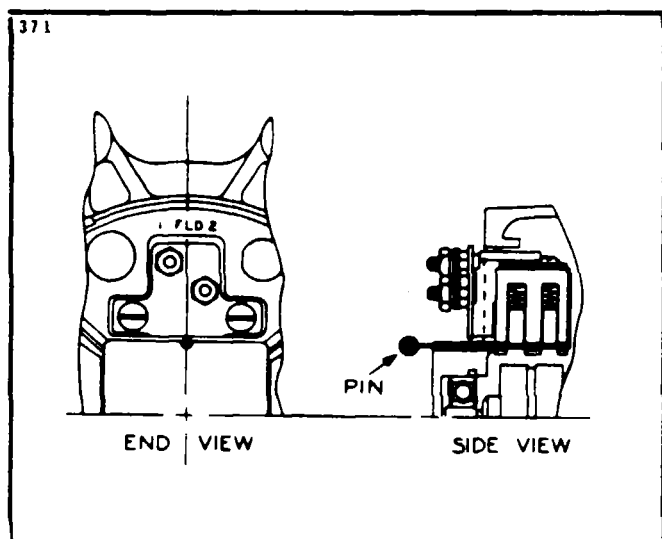

Figure 11-16. Brush Installation
- c. Brushes: These units have a separate brush holder assembly that is installed after the alternator has been assembled. The brush holder has a small hole that intersects the brush cavities. Use a pin or a piece of wire, as shown in Figure 11-16, to hold the brushes in the holder during assembly. Remove the pin after the brush holder retaining screws have been tightened. Make a continuity check to be sure the brushes are seated against the slip rings.